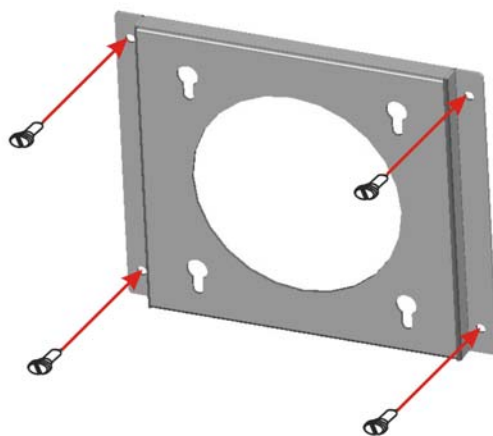

Figure 5-27: Wall-mounting Bracket
- Step 5:** Secure the mounting-bracket to the wall by inserting the retention screws into the four pilot holes and tightening them (**Figure 5-27**).